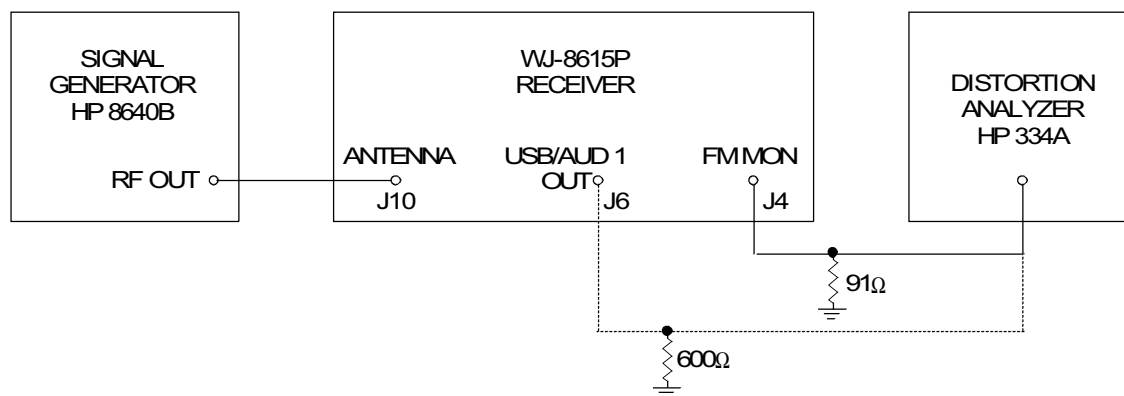

Figure 4-3. AM/FM Demodulator Performance Test, Equipment Connections
1. Connect the test equipment as illustrated in **Figure 4-3**.